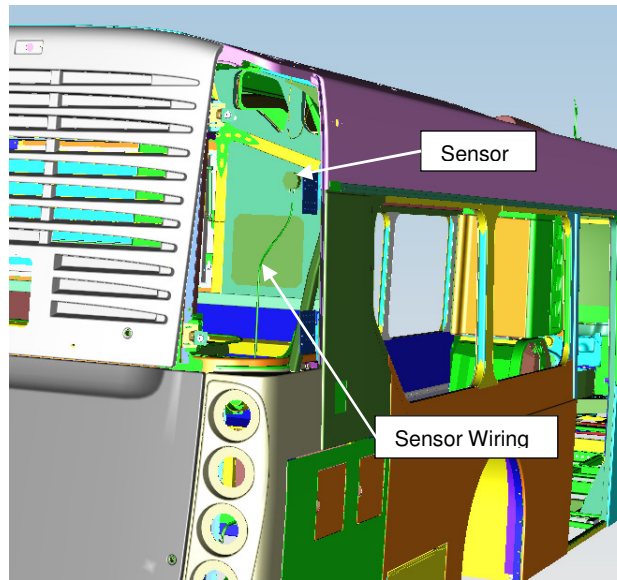

Figure 1: Zone #3 Gas Detector & Wiring Location.
2. Open the access door on the curbside rear pillar of the bus to access the Zone #3 A/C compartment gas detection sensor and wiring. Figure 1.